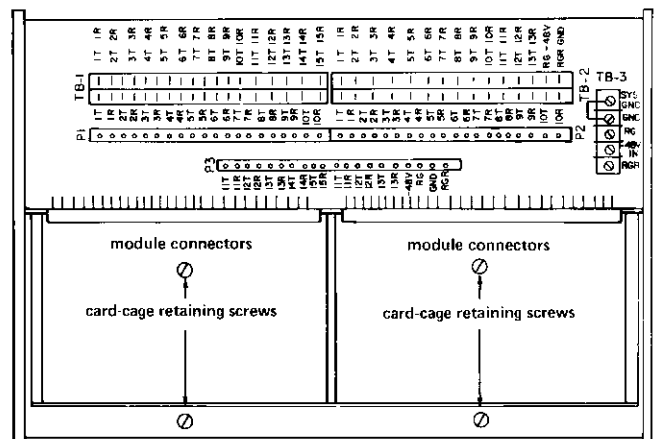

figure 6. 260DXX terminal block locations
3.04 External connections to the 260 System are made via two 30-position punch-down terminal blocks, TB1 and TB2, located in the 260 Assembly (see figure 6). Each position of TB1 and TB2 is connected to the corresponding pin on the terminal strips P1, P2 and P3 via printed circuit traces. All external wiring should be run through the access hole in the side of the case and through the cable ties located nearby. Make the installer connections in accordance with table 4 and the 260 wiring diagram (figure 8).